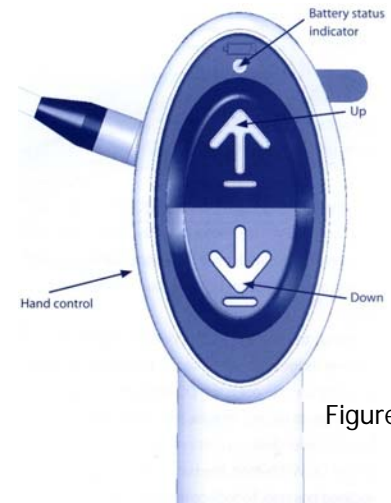

Figure 6
The ergonomically designed handset is tough and lightweight (see Figure 6 on page 5). Its raised buttons enable easy operation of the AquaLift. The battery charge indicator tells the user when the battery is getting low.
3. Press the UP button on the handset (see Figure 6 on right) to raise the seat to the required height for side transfer. Ensure the side flap is resting on the side of the bath tub.